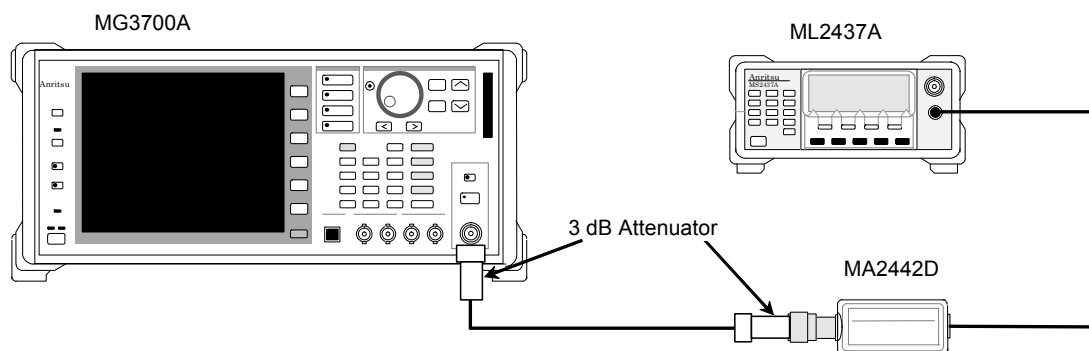

Figure 6.3.1-1 SG Calibration (CW)
1. Setup the instruments as shown in Figure 6.3.1-1.
2. Set the vector signal generator (SG) as follows: